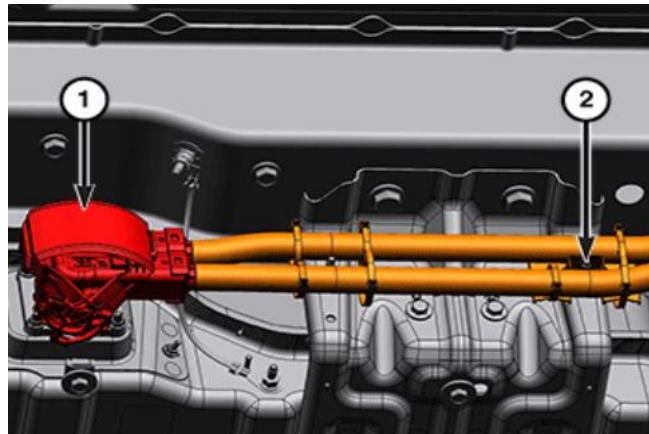

Figure 16 – Wire Harness
- 26. Disengage the two wire harness retainers (2) from the high-voltage battery (Figure 16).